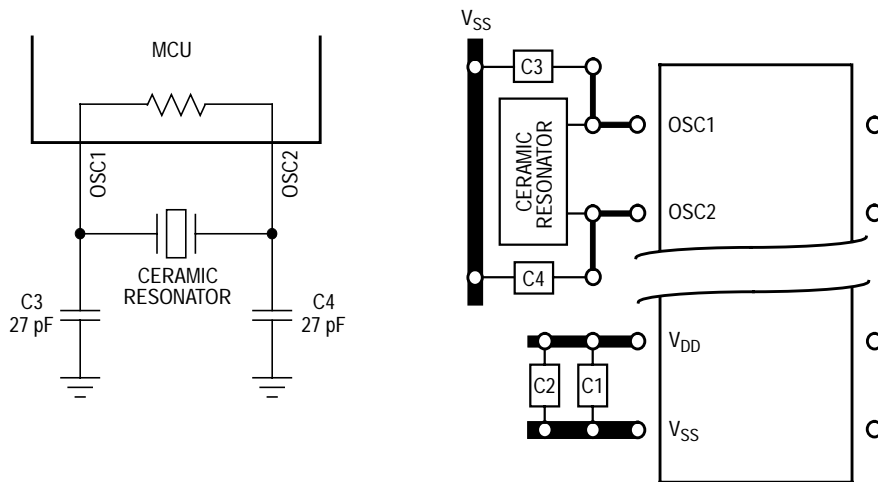

Figure 5. Ceramic Resonator Connections with Oscillator Internal Resistor Mask Option
2. Ceramic resonator (See Figure 5 and Figure 6.)
3. Resistor/capacitor (RC) oscillator (Refer to Appendix A.)
To reduce cost, use a ceramic resonator instead of the crystal. The circuits shown in Figure 5 and Figure 6 show ceramic resonator circuits. Follow the resonator manufacturer's recommendations, as the resonator parameters determine the external component values required for maximum stability and reliable starting. The load capacitance values used in the oscillator circuit design should include all stray capacitances.